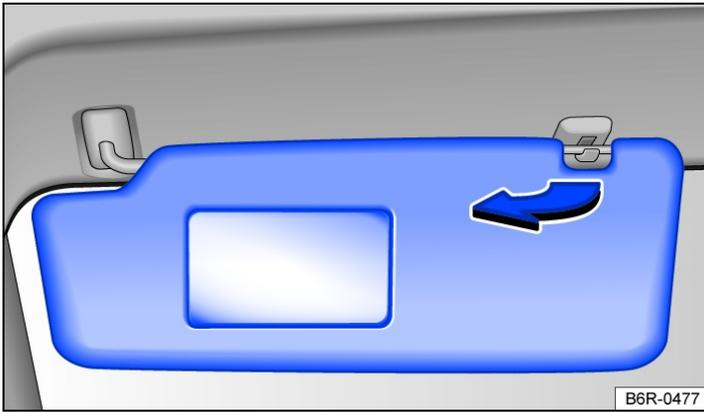

Fig. 1 Sun blind (left-hand side). The right-hand side is a mirror image.
- Pulled out of the bracket and swung over towards the door → *Fig. 1* (arrow).